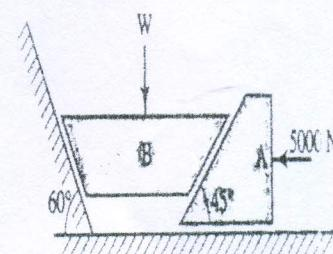

Fig:11, Q.6 (A) OR
- Q.6** [A] What load W can just be raised on the block B by the application of a horizontal force of 5000 N on the block A shown in Fig. 11. Take coefficient of friction for all surfaces of contact is 0.25. Neglect the weights of A and B. [05]
- (A) Locate zero force members in truss shown in the fig.11. Also find axial forces [5] in remaining members by method of joint.
- (A) A 8m long ladder rests against a vertical wall with which it makes an angle of [5] 45° . If a man whose weight is one half of that ladder, climbs it. At what distance along the ladder will be the man when the ladder is about to slip? The coefficient of friction $\mu = 0.3$ between ladder & wall and 0.5 between ladder & floor.
- (B) Analyze truss as shown in fig.11. by method of section. [5]